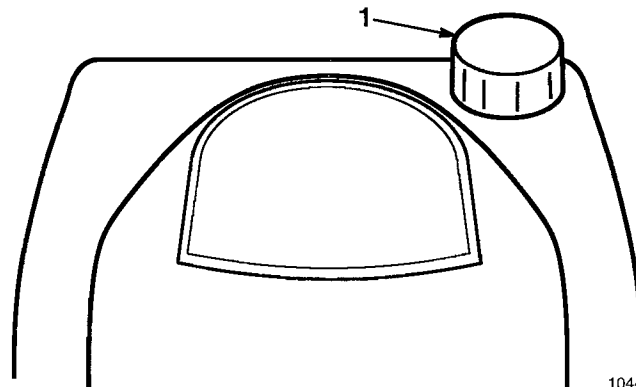

Figure 8
1. Clean around fuel cap before removing (Fig. 8). Fill fuel tank with gasoline/oil mix to bottom of filler neck, not into filler neck. **DO NOT OVER-FILL TANK.** Replace fuel cap securely and wipe up any spilled fuel.